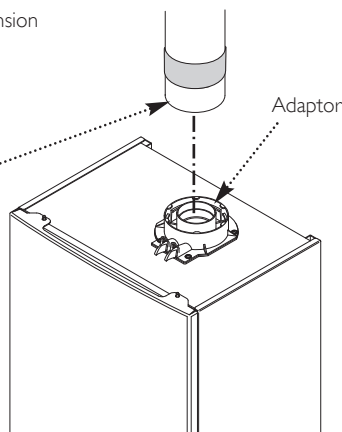

Fig. 45
15. Engage the extension into the adaptor up to this position (Fig. 45). Once the installation of the flue is complete and all support brackets are securely in place remove the tape.